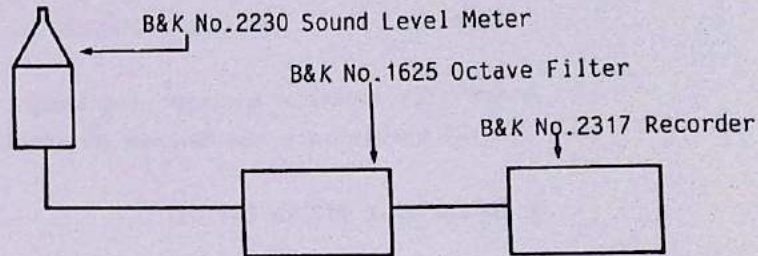

Fig. 606
6. Connect sound level recording equipment as per Fig. 606.